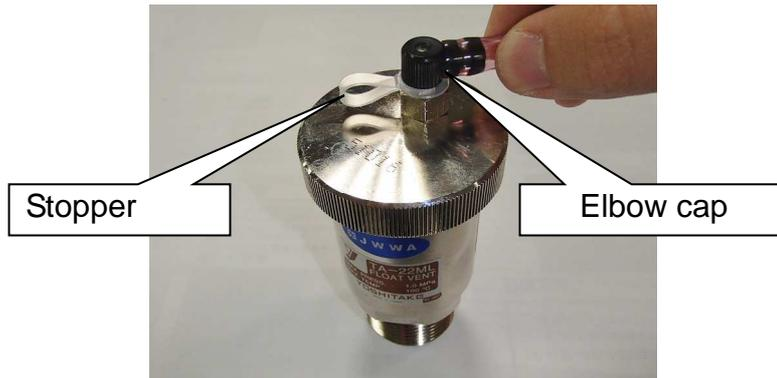

Fig. 1
1. After tightening elbow cap, be sure to attach hose to the product, and lead it to drain ditch (see Fig. 1). In addition, after attaching hose, fix the hose to avoid loosening of elbow cap.